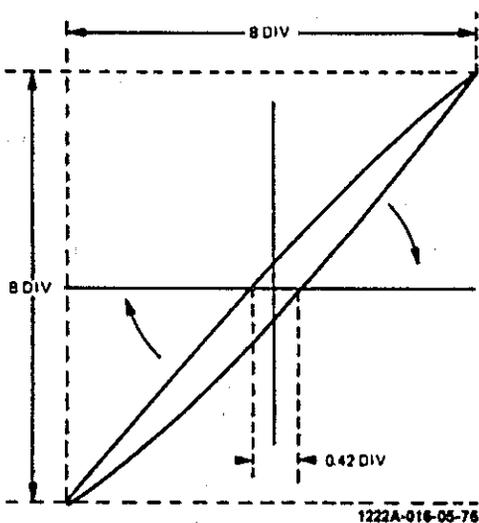

Figure 5-9. X-Y Phase Measurement
- g. Observe CRT display. Phase angle is equal to or less than 0.42 major division (see figure 5-9).